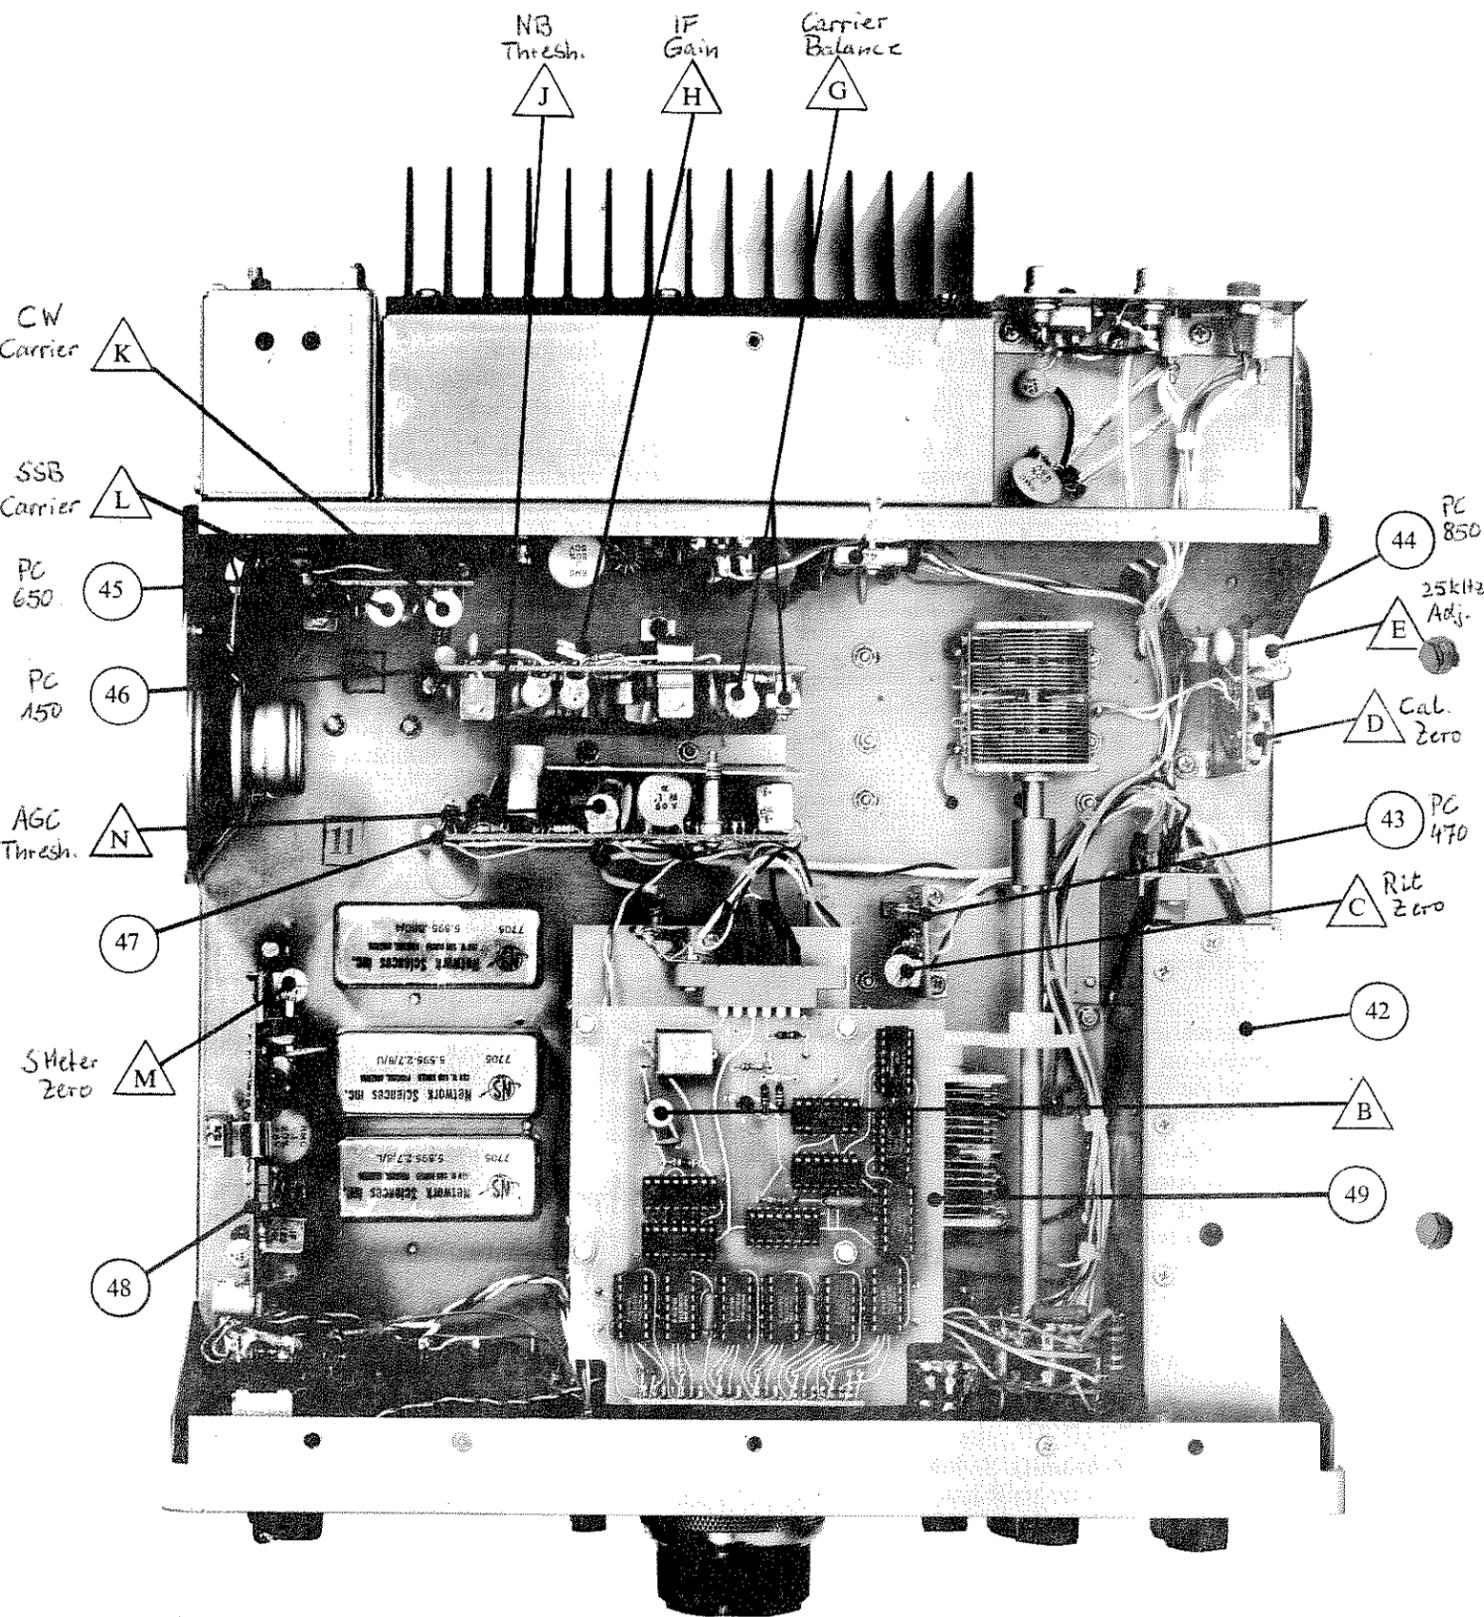

FIGURE 5.1 TOP VIEW, ATLAS MODEL 350-XL
With RX-TX Switch in TX position, connect voltmeter to gray wire eyelet on PC-650, (Item 45, Figure 5.1), with switch in SSB position, voltage should measure 14 volts DC in TUNE/CW position, it should read about 0.1 DC.
Position dial set (Item 9, Figure 3.1) and RIT control (Item 10, Figure 1) at 12 o'clock. RIT switch (Item 11, Figure 3.1) in ON (UP) position. Right hand L.E.D. (White Lens, Red L.E.D.) should light. Measure voltage at center lug of RIT control, (Rear control of dual potentiometer). It will be about 2 to 2.3 volts DC. Switch RIT to OFF (DOWN) position. Adjust trimpot (Item Δ , Figure 5.1) on PC-470 (Item 43, Figure 5.1) for exactly same reading as with RIT on. Switch back and forth to make sure voltage doesn't change when you switch.
NOTE: Early model 350-XL's have the PC-470 board mounted directly behind the DIAL SET/RIT Potentiometer. Later models have the PC-470 mounted as shown in Figure 5.1.
2. R.F. Gain (Item 3 , Figure 3.1). Locate PC-150 (Item 46 , Figure 5.1), terminal 14. R.F. Gain should run from 2.5 to 9 volts, approximately.
A. Zero Adjustment: Using the Digital Dial reading, tune to an exact 100 KHz increment, such as 14,200.0. Adjust capacity trimmer (Item D , figure 5.1), on PC-850, for exact zero beat. Switch between LSB and USB until no heterodyne can be heard on either sideband.
Switch on and tune in signals. Stop at a 25 KHz spot, such as 225 or 275, and adjust TRIM-POT (Item E , Figure 5.1) on PC-850 (Item 44 , Figure 5.1) for stable signal. Start with trimpot full CCW, and turn until 25 KHz signal pops in. There are other spots where the multivibrator will lock in at 25 KHz, as well as 20 or 33 1/3, but the first one from full CCW is the most stable.
- Set AGC Threshold trimpot (Item N , Figure 5.1) to midrange.
- Set S-Meter zero trimpot (Item M , Figure 5.1) for 0 reading on meter.
A source of pulse-type noise will be required for this adjustment. Either a homebrew "noise machine" or an automobile creating ignition noise on the 350-XL receiver. Note S-Meter reading. Tune transceiver to 7200 KHz. Locate Threshold trimpot (Item J , Figure 5.1) on PC-150 (Item 46) and turn to full CCW position. On later model 350-XL's this trimpot is located on the circuit side of the PC-150 and it will be necessary to turn trimpot full CW. Switch Noise Blanker on and turn trimpot CW (CCW later models) until noise begins to appear.
Tune 350-XL to 14.2 MHz. Set filter switch in LSB position. MIC/ALC and TX DRIVE at minimum. SSB-TUNE/CW switch in TUNE/CW position. Insert CW key and press key to transmit. Advance MIC Gain (Now carrier insertion) or TX DRIVE on later models to increase power output. Set to about 100 watts. Then, switch filter control to CW position. Adjust right hand trimmer (Item Δ , Figure 5.1) on PC-650 (Item $\textcircled{45}$, Figure 5.1) for maximum output. Power should now be the same, or within 20 watts or so, as in LSB position. This last adjustment has set carrier frequency for CW transmit. THIS TRIMMER SHOULD NOT REQUIRE FURTHER ADJUSTMENT.
Switch FILTER to USB and move the A.F. Generator until power is again at 20 watts. Call this A.F. #2. Adjust the left hand trimmer (Item Δ , Figure 5.1) on PC-650 to bring A.F. #1 and #2 together.
Alternate method: Trimmer (Item Δ , Figure 5.1) may be adjusted fairly close by simply listening to the pitch of background noise on both LSB and USB and setting the trimmer to the place where background noise sounds the same. This is not as accurate as using the audio generator, but will be quite close.
Tune 350-XL to 14.2 MHz. Connect Monitor Scope and/or Dummy Load/Wattmeter. Note: Wattmeter can be used in place of Monitor Scope. FILTER in LSB position, and MIC Gain full clockwise. Switch TX/RX switch to TX and adjust carrier balance trimpot (Item Δ , Figure 5.1) for minimum scope deflection, or wattmeter reading. Adjust Phase Balance trimmer (Item Δ , Figure 5.1) for minimum scope deflection or wattmeter reading. Re-adjust carrier balance trimpot for minimum reading. Note wattmeter reading. If reading is somewhat higher than 1 or 2 watts, rotate, the MIC Gain control (Carrier Insertion) until a null in the wattmeter reading is found. This reading should not be more than 1 or 2 watts. On some 350-XL's, without TX DRIVE, minimum carrier is not achieved at the full CCW setting of the MIC Gain, but at a point somewhere between 9 and 12 o'clock on the MIC Gain control. This is normal and should not be of any concern.
Tune transceiver to 1.8 MHz. With Dummy Load and Wattmeter connected, set I.F. Gain trimpot (Item Δ , Figure 5.1) to full CCW position. Switch transceiver to CW transmit mode and rotate gain control trimpot in a clockwise direction until a slight decrease in power is noted, (2-3 watts).